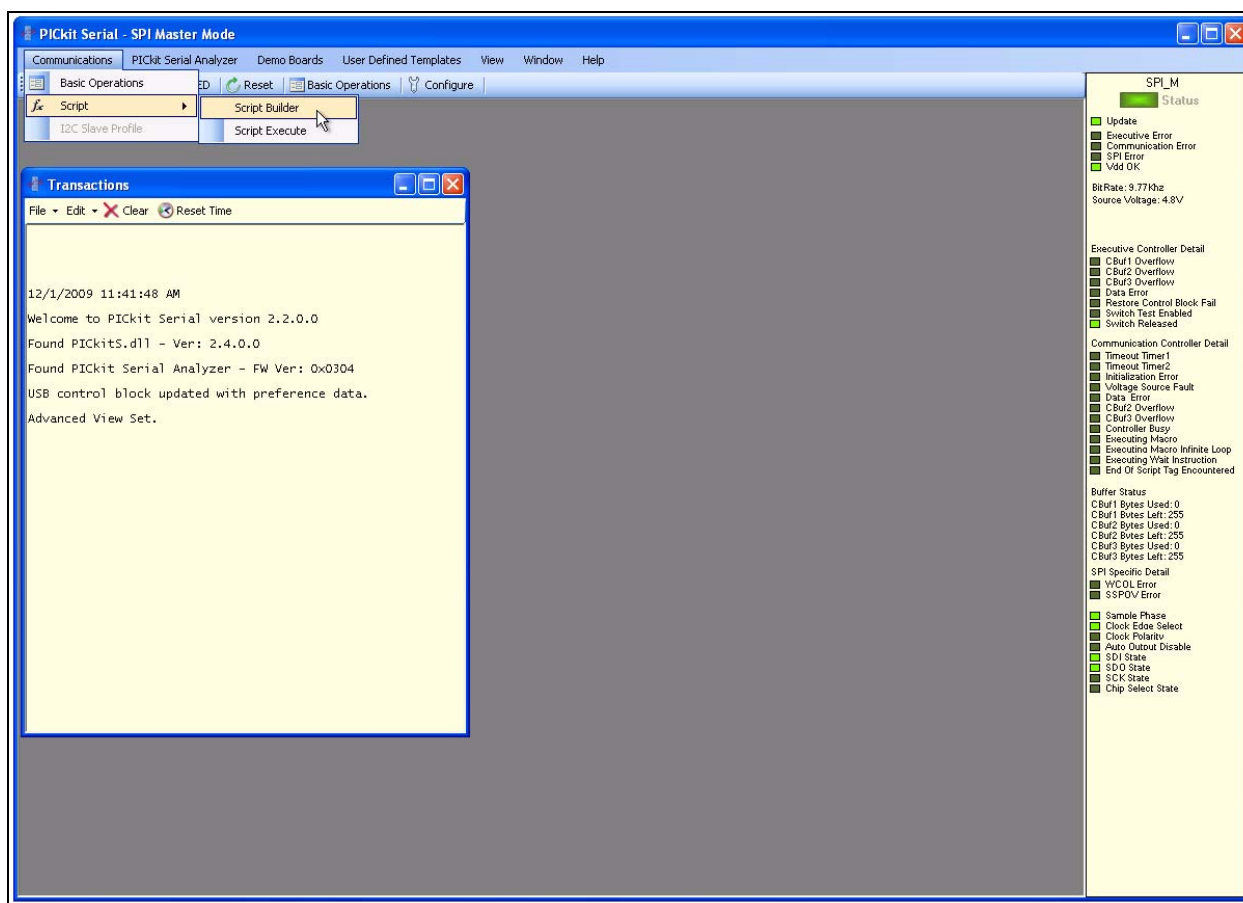

FIGURE 2-8: PICKit Serial - Script Builder Menu Selection.
Now we are going to open the Script Builder window, select the Communications -> Script -> Script Builder menu item (see Figure 2-8).
8. Open the Script Builder window (see Figure 2-8).